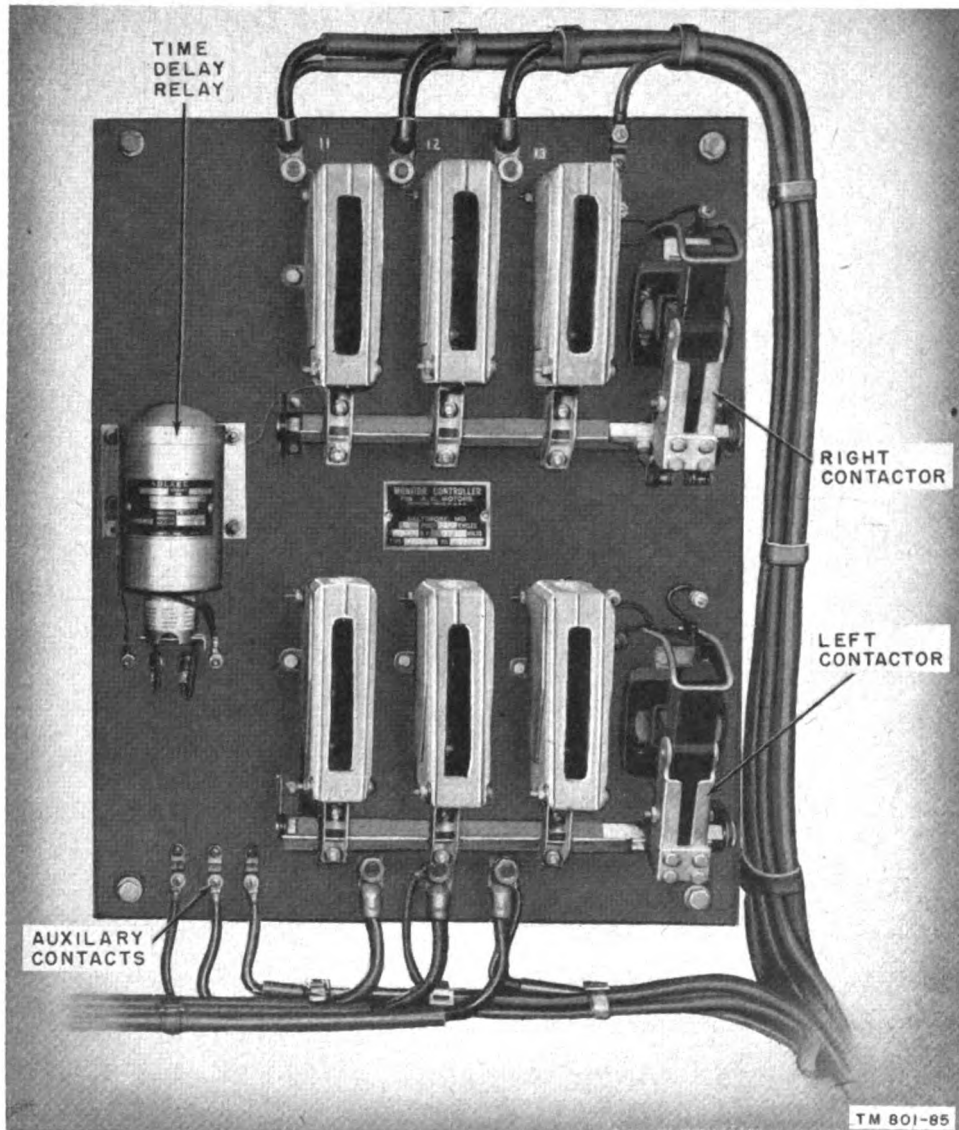

Figure 34. Rectifiers RA-22, -A, and -C through -G, controller assembly SW-1.
e. CONTROLLER ASSEMBLY SW-1 (fig. 34 or 35). Remount the vertical frame member and associated sheet metal plate to the left side of the controller assembly by means of the two mounting feet on the left side of the assembly. Place the entire assembly into position (fig. 12 or 13), fitting the lower right slotted mounting foot over the protruding stud on the frame